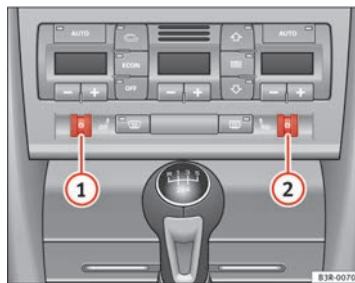

Fig. 143 Detailed view of the dash panel: Thumbwheel controls for seat heating
Turn thumbwheel ① or ② ⇒ Fig. 143 to switch on and adjust the heating on the left or right front seats.